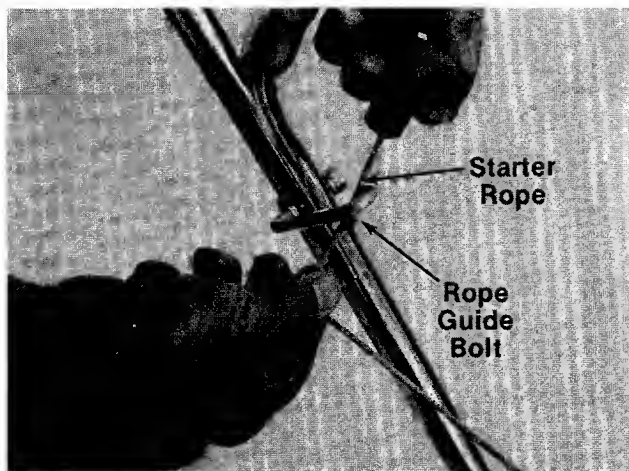

FIGURE 11.
16. Slip the starter rope into the rope guide bolt as shown in figure 11.